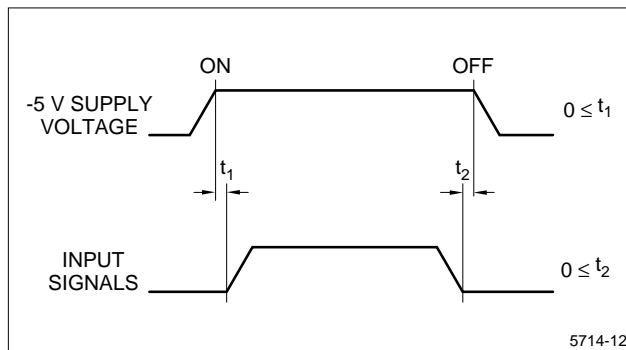

Figure 12. Power ON/OFF Sequential Timing
- To prevent the latch-up of the circuit in the module, keep the sequential timing between input signals and supply voltages as shown in Figure 12.